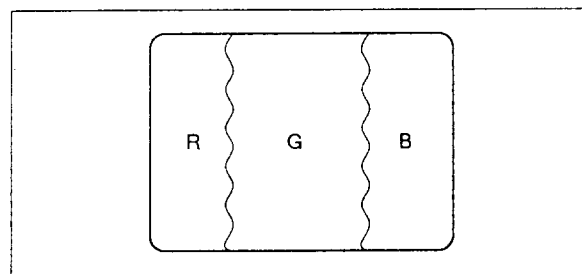

Fig. 6-3-4
- 6) Adjust the purity magnets so that the green is positioned at the center of the screen. (See Fig. 6-3-4 and 6-3-6.)